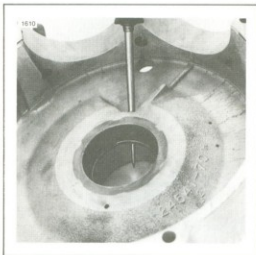

Figure 3-41. Removing Lock Ring
- See Figure 3-40. If left main bearing is to be replaced, press out bearing races (11 and 13) from opposite sides of crankcase hole, using CRANK-SHAFT BEARING REMOVAL & INSTALLATION TOOL, Part No. HD-94547-80. If bearing set is being replaced, remove lock ring (12) using a pin punch or similar tool. Rotate lock ring in groove so that one edge covers oil hole. Insert tool into oil hole with tapered end underneath lock ring. Tap on tool to force one end out of groove as shown in Figure 3-41. Starting at this free end, push ring out of bearing bore.